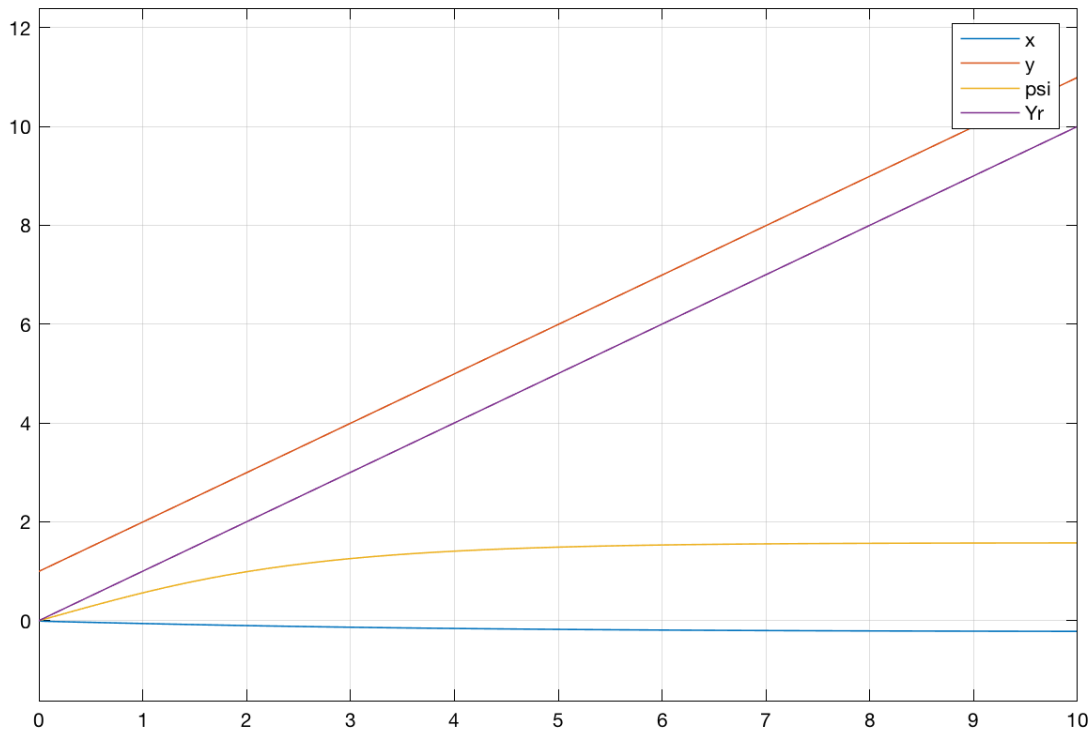

Figure 3. Plot of closed loop system for problem 6
6. In order to vary the initial condition so that the controller no longer results the desired behavior, we can set $x_0 = 1$, and $y_0 = 0$. We can see in *Figure 3* that y does not converge to y_r anymore, and they both increase in parallel as time increases. On the other hand, if we set the initial condition to $x_0 = 0$, and $y_0 = 1$, we can clearly see in the plot that Y diverges from Y_r as time increases.